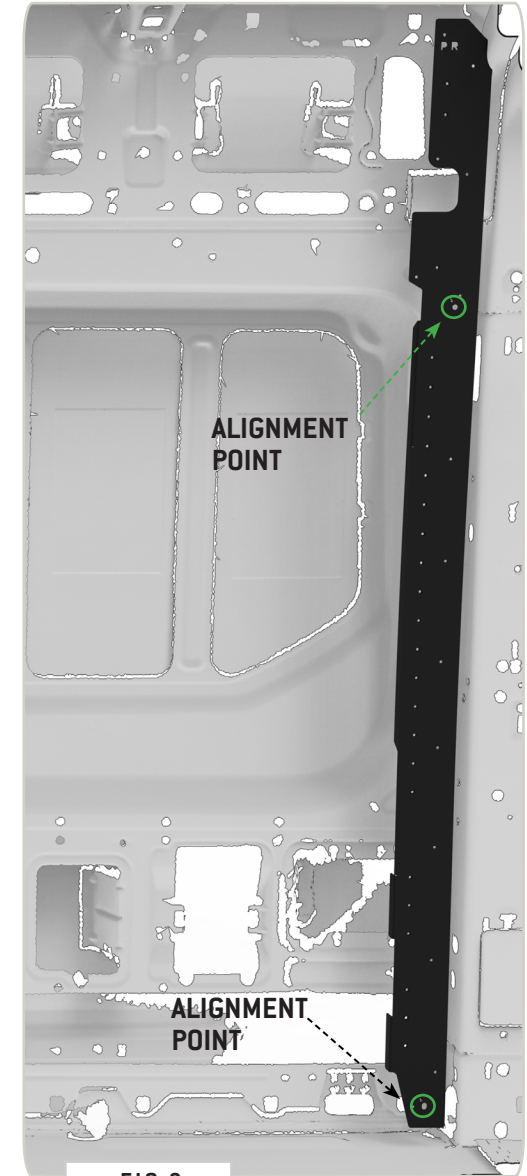

FIG 8
3.3 Align Driver Side Rear Bracket: Align the **Driver Side Rear Bracket** to the **Alignment Point** as shown in FIG 8.